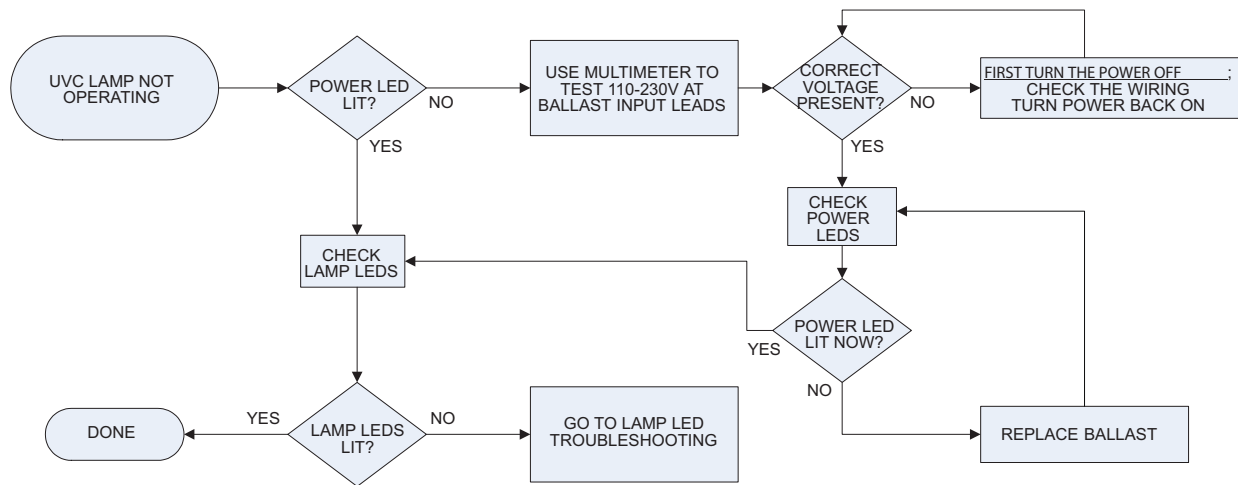
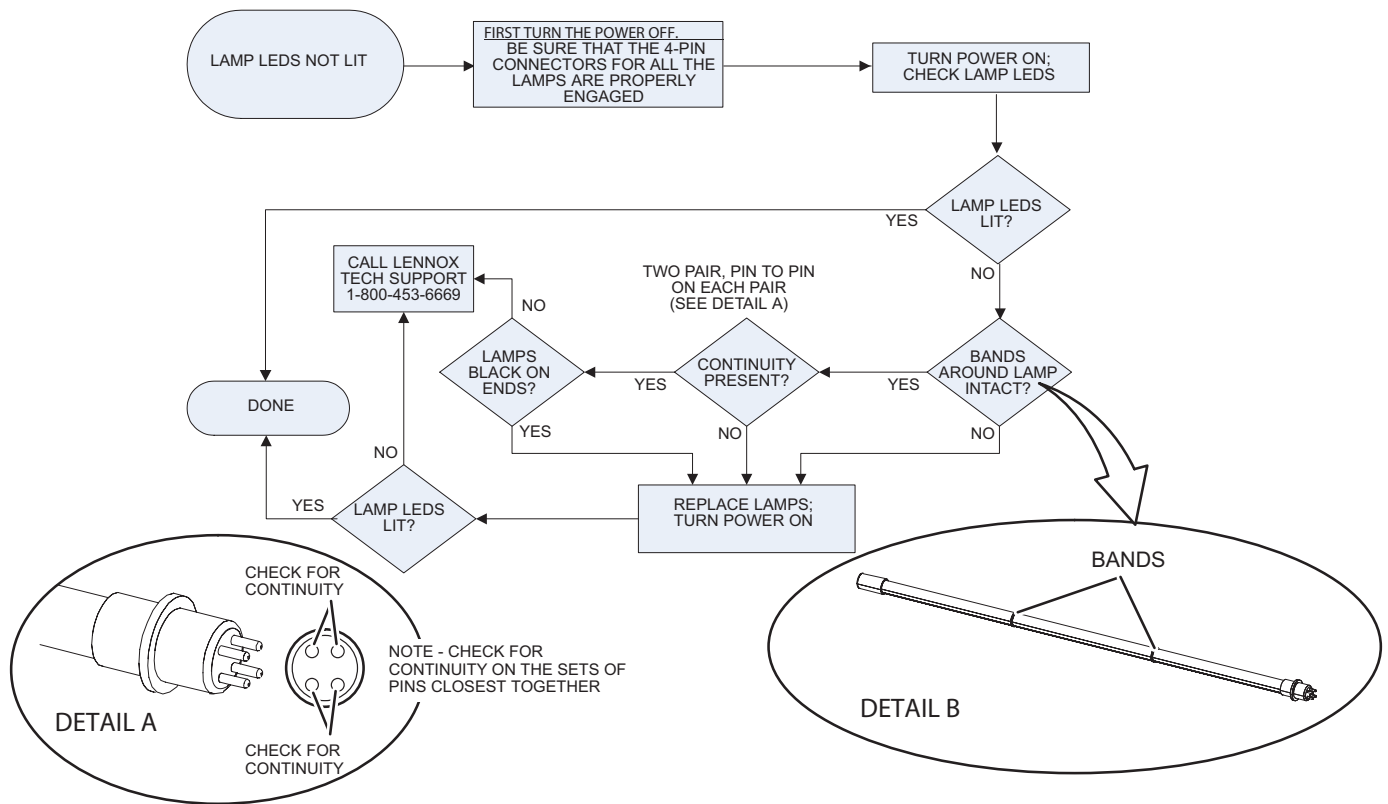

FIGURE 42
FIGURE 43
- 2 - Ohm-check across the lamp pins to check for continuity of lamp filaments (see FIGURE 43).
Troubleshooting charts are provided to aid in determining the cause of any problems encountered (FIGURE 42 and FIGURE 43).